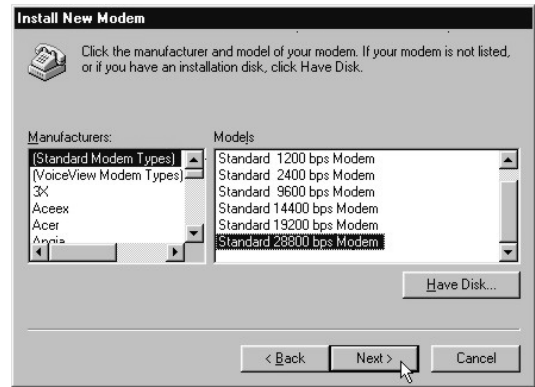

Figure 6 - Choose Modem Type
4. Select "(Standard Modem Types)" from the "Manufactures:" list. Choose "Standard 28800 bps Modem" from the "Models" list and click NEXT. (Fig.6)